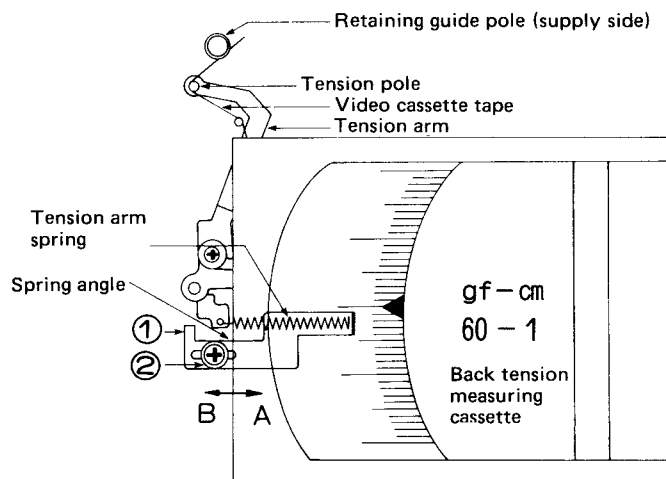

Figure 64.
2. Set a back tension measuring cassette tape as shown in Fig. 64.